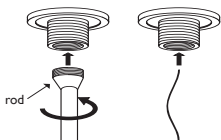

Fig. 4.2
5. Take the membrane hanger and attach it to a rod, a cable or alike, as seen in fig. 4.2.